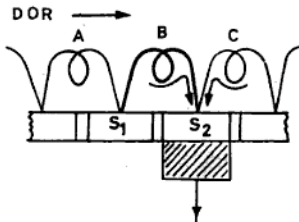

Fig. 7.39 Remedy of commutation by resistance commutation method
**(i) Resistance Commutation Method** In the resistance commutation method the current in the short-circuited coil is made to change gradually by using high resistance carbon brushes. Carbon has about 4000 times higher resistance than that of copper for the given dimensions. To understand this let us consider the following : In Fig. 7.39, the brush touches segment